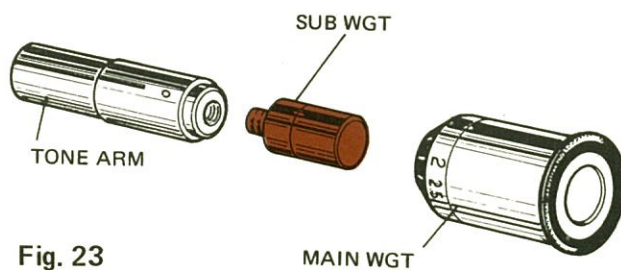

Fig. 23
- f) If the main weight alone is not enough to provide the desired stylus pressure due to use of a heavier cartridge, use the sub-weight (supplied) in addition thereto. **See Fig. 23**